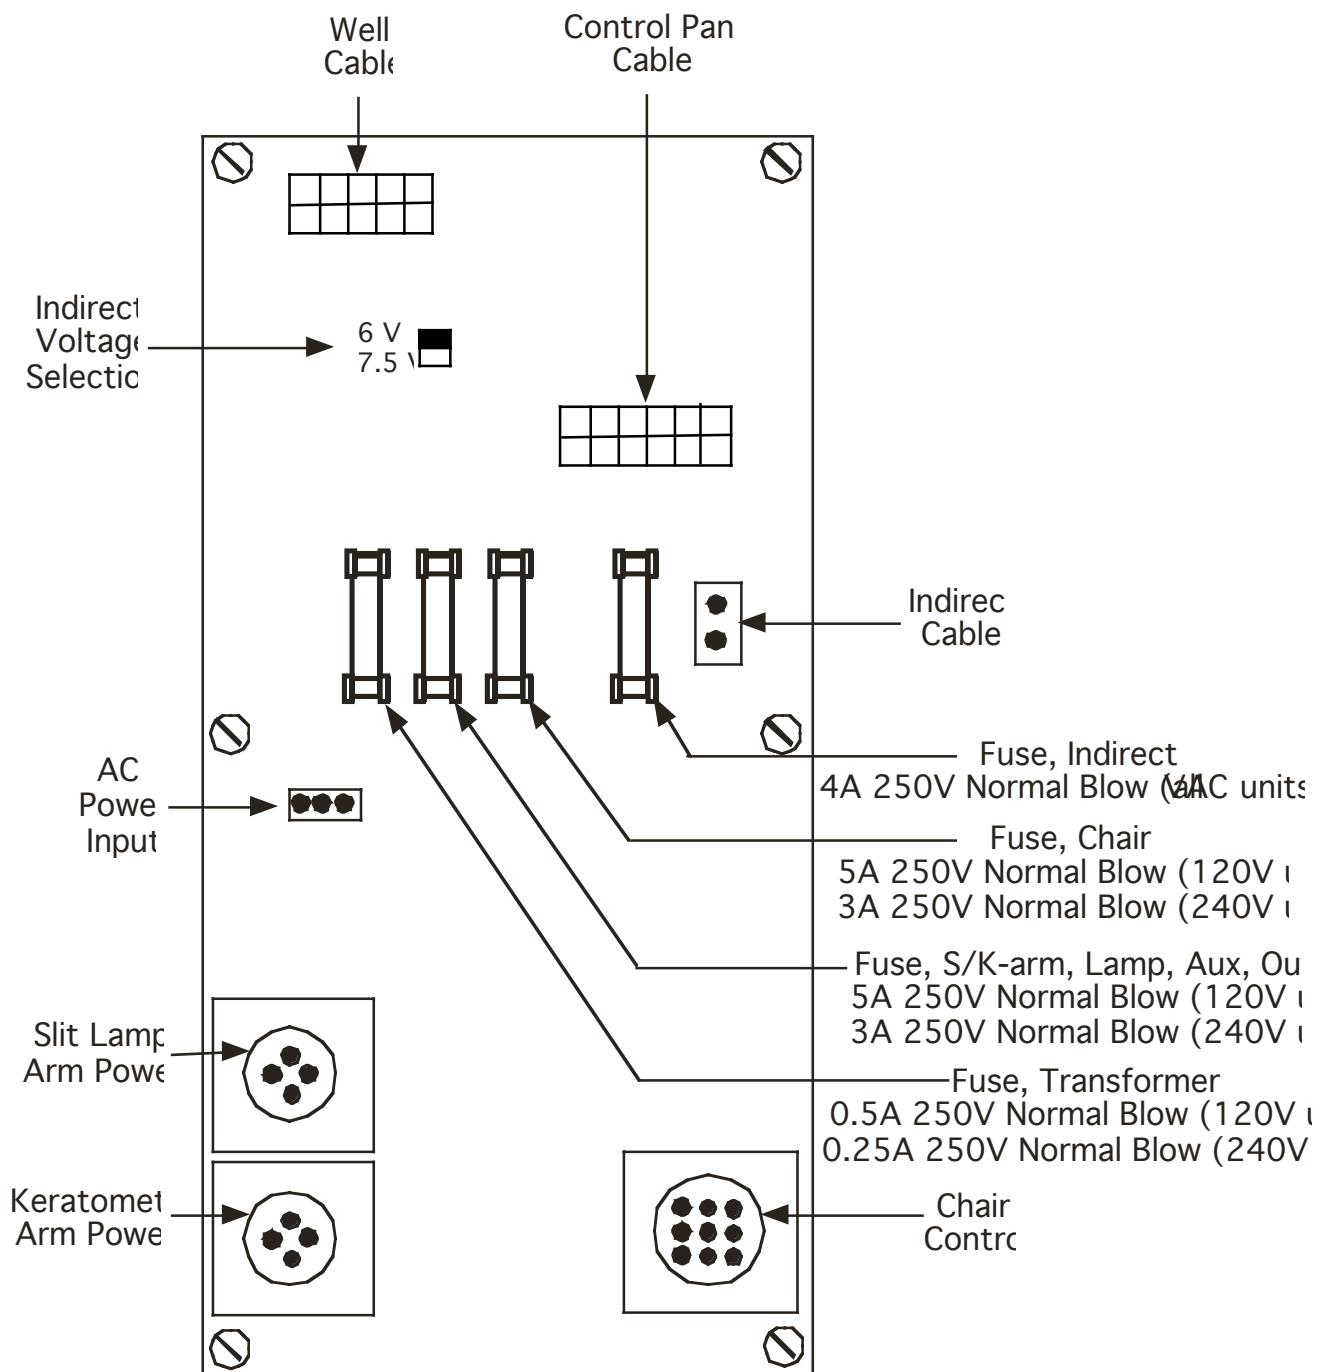

Figure 3.3: IS-2500 Connector Locations
Securely tighten the setscrews using a 3/16 hex wrench to hold the Keratometer arm in place. Feed the cord from the arm down through the pole and plug into the K arm connector on the electrical receptacle panel. See Figure 3.3 for the IS-2500 connector mounting location.
- 3.2.10 Place the chair cable through the large wire hole in the back, and mate into the 9-pin connector marked CHAIR on the bottom right corner of the electronics board. See Figure 3.3 for the IS-2500 connector mounting location. Plug the power cord of the chair into a grounded wall outlet. (NOTE: Using a non-Topcon chair may require an adapter, see Table 1 for pin functionality. The chair supplies AC power to the IS-2500, and the IS-2500 acts as a switch and returns the power to the chair to make it go up and down.)
change the voltage, remove the IS-2500 side cover and move the black jumper on the circuit board to 7.5 volts. See Figure 3.3 for the jumper location.